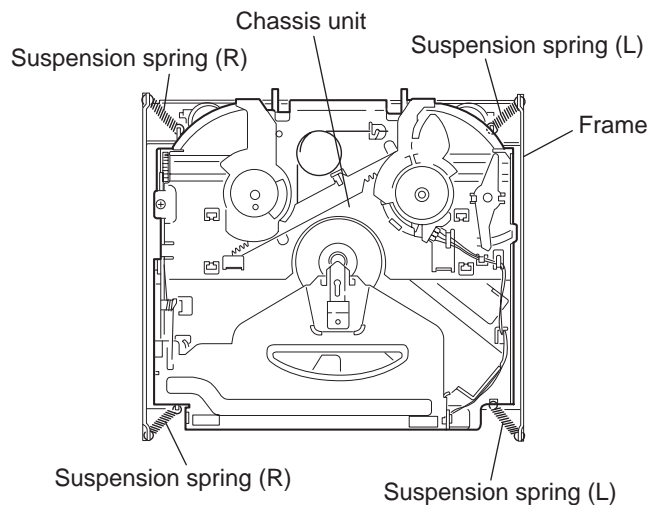

Fig.8
3.2.4 Removing the chassis unit (See Figs.8 and 9)